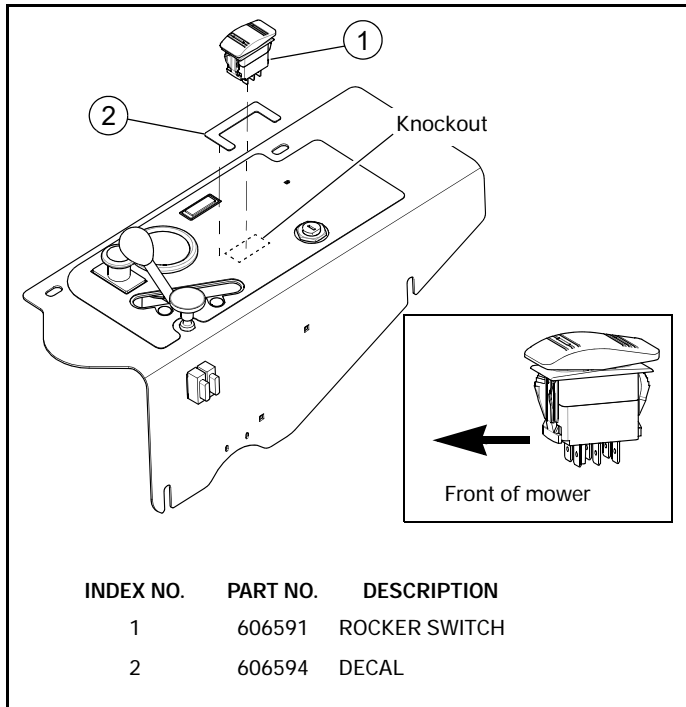

FIG. 7
13. Remove the knockout in the control panel. Fig. 7
14. Position the switch as shown and insert it into the slot. The switch will snap into place. Fig. 7
18. Put the switch decal in place on top of the control panel around the switch. Fig. 7